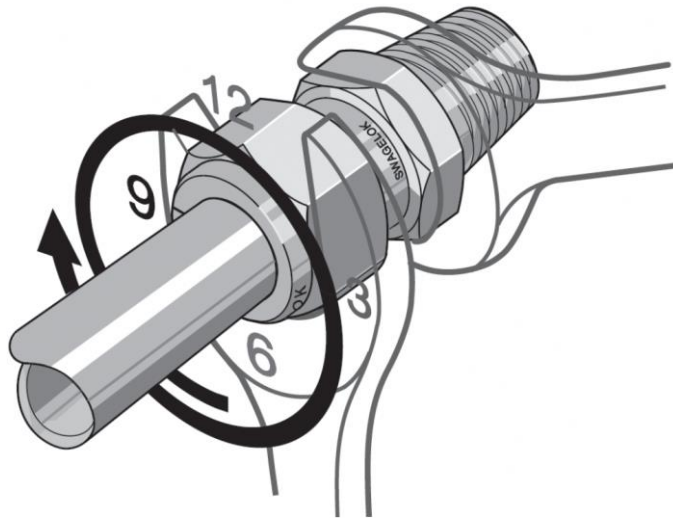

Figure 7: Tightening the Tube Nut to Swage the Stainless Steel Ferrules
Table 1: Meter Insertion Distance (see note below Figure 7)
7. For insertion type meters - after the meter is inserted to the correct depth with the pointer in the direction of flow (+/- 2 degrees), tighten the tube nut with the 1-1/8” open end wrench. To properly swage the stainless steel ferrules, use a back-up wrench (1-1/4” or 1-3/8” open end) and tighten the tube nut 1.25 turns (450 degrees) beyond finger tight. This is shown in Figure 7 below.